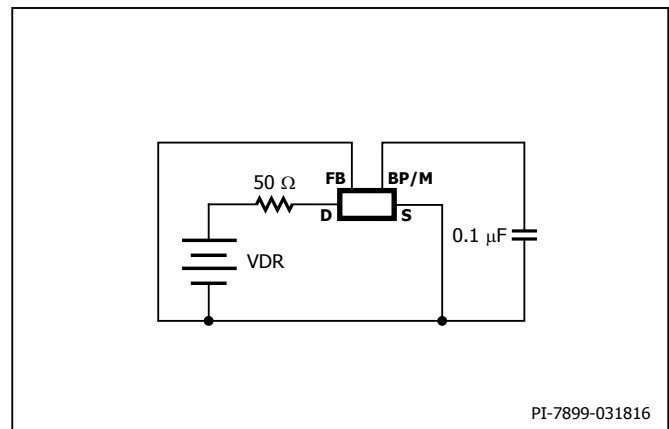

Figure 12. LinkSwitch-TN2 Minimum On-Time Test Circuit.
- I. Measured using circuit in Figure 12 with 50 Ω drain pull-up. The width of the drain pulse is measured as the time from $V_{FALL} = 42$ V to $V_{RISE} = 40$ V (VDR = 50 V), for LNK32x6/x5/x4 and as the time from $V_{FALL} = 32$ V to $V_{RISE} = 30$ V on rising edge (VDR = 35 V), for LNK3202.